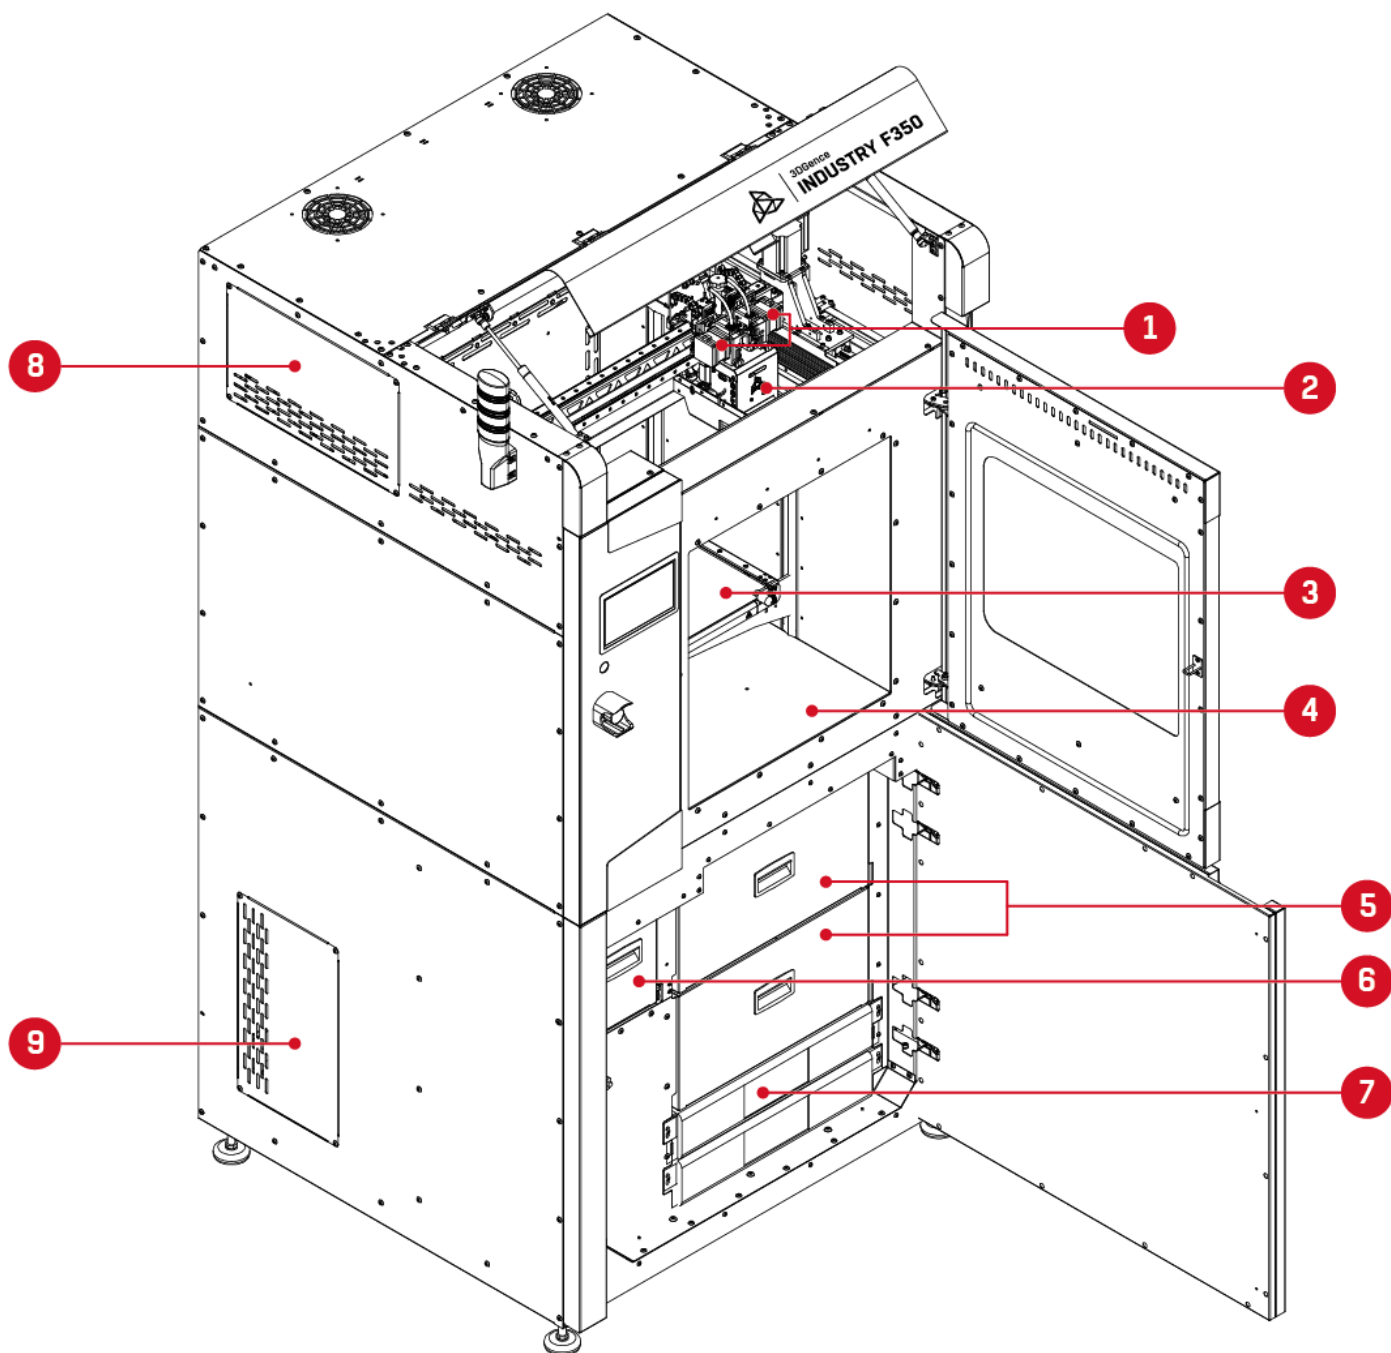

Fig. 16 3DGence INDUSTRY F350 – isometric projection, open working chamber door and top cover:
4. Remove all loose items from the printer, including the set of accessories located in the accessory compartment of the drawer (Fig. 16, point 5).
5. Using the spirit level in the printer, after unscrewing the revision (Fig. 16, point 9) to check that the printer is level with the ground. If necessary, level the device by tightening or unscrewing the individual feet so that the air bubble of the level is in the centre.
The working chamber door (Fig. 15, point 5) allows access to the heatbed, the cleaning station slats and brushes, the camera and lighting. The door is fitted with an electric lock. During the printing process, the door is locked and cannot be opened. After printing is finished and the device temperature is safe, the printer software will allow you to open the door. It should be remembered that an attempt to open the door with the emergency opening lever (Fig. 16, point 9) will start the safety procedure, cut off power to the drives and stop the printing process. In this case, the manufacturer cannot guarantee that continuing the printing process will be possible without significantly impairing print quality or causing a machine failure. The door has two tempered glass panes and a seal that ensures the working chamber tightness.
The printer heatbed moves along the Z axis (Fig. 16, point 3). Its design allows the use of various heatbeds. Additionally, the heatbed is fitted with a glass heatbed presence sensor.
The cleaning station container is located in the accessories compartment (Fig. 16, point 6). The container is designed to collect leftover material and should be emptied regularly, after each printout, in accordance with the procedure described in section VIII, subsection 1.3.